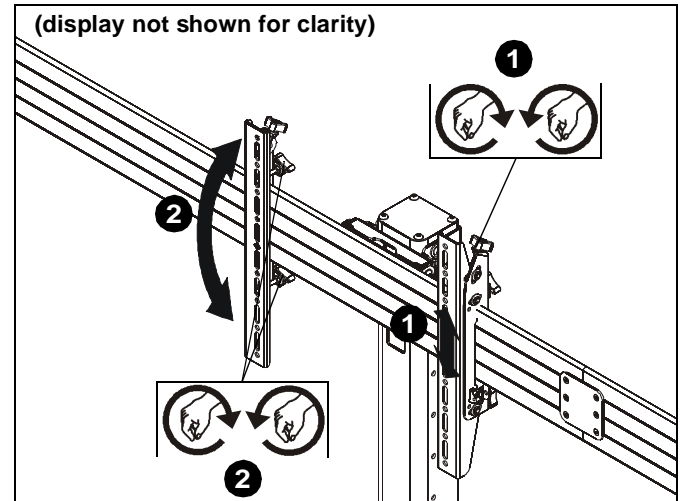

Figure 21
- Use upper knob on back of interface brackets (AA and BB) to adjust the height of each display. (See Figure 21)
- Use middle and lower knobs on back of interface brackets (AA and BB) to make plumb adjustments to each display (See Figure 21)